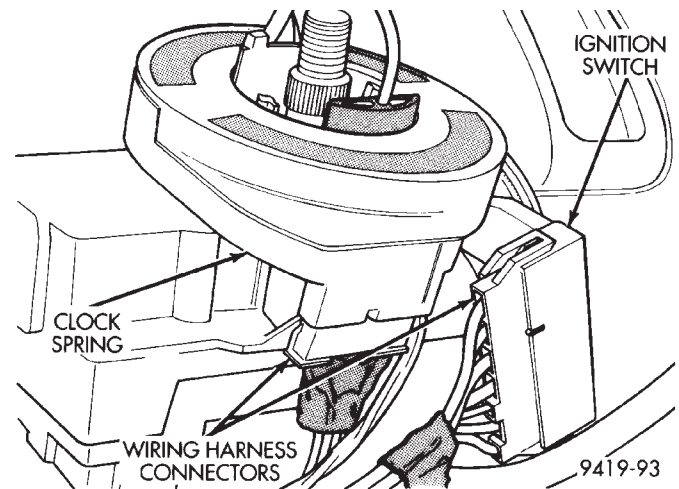

Fig. 20 Wiring Harness Connection To Clock Spring And Ignition Switch
(7) Install wiring harness connectors onto clock spring and ignition switch assembly (Fig. 20).
(8) Install shaft coupler pinch bolt loose, load column up to panel bracket.